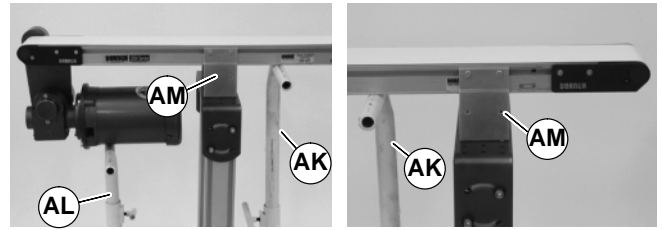

Figure 19
1. Place temporary support stands (AK of Figure 19) at both ends of the conveyor. Place an additional support stand under the drive motor (AL), if equipped. See **WARNING**.
2. Remove mounting brackets (AM of Figure 19) from one side of conveyor. (Reverse steps 3 & 4 of “Mounting Brackets” section on page 6.) If equipped with heavy load drive package, remove brackets from side opposite drive cover (AN of Figure 20).
- Ensure temporary support stands (AK of Figure 19) are placed at both ends of the conveyor. Place an additional support stand under the drive motor (AL), if equipped. See WARNING.